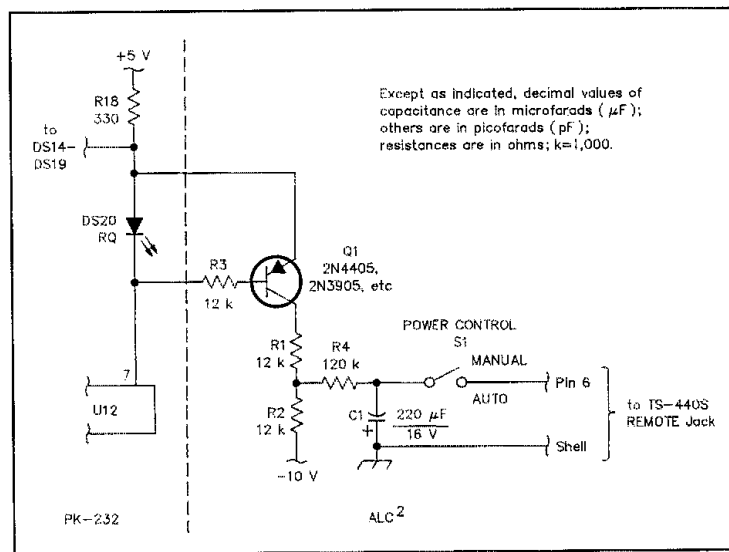

Fig 1—Schematic of the simplest version of ALC2, showing connections to PK-232. All resistors are  $\frac{1}{4}$  W, 5% tolerance.
*The ARRL Antenna Book*, on page 8-32, describes the basic function of the collinear array. In sum, it concentrates energy perpendicular to the wire, hence the term *broadside array*. This antenna's physical layout and pattern are shown in Fig 1. Such an antenna's gain can be increased by varying the end-to-end spacing of the elements.3
Fig 1—A two-element collinear array (A), also known as *two half-waves in phase*, is merely two half-wave wire elements placed end to end. This antenna has about 1.5 dB gain over a dipole in the same surroundings, and B shows its free-space pattern.
The simplest circuit I came up with, as a feasibility study, is shown in Fig 1. It uses only seven components. PNP transistor Q1 detects the voltage drop across DS20 when the LED is turned on. R3 limits the base current so that Q1 doesn't steal all the current (which would keep the LED from lighting). This is necessary because the junction voltage of a GaAs or InP LED is larger than that of a silicon transistor.
As I mentioned, the circuit of Fig 1 isn't fully automatic. I built it only as a feasibility demonstration. A more practical circuit could use additional inputs from other LEDs and some logic to make a better decision about when to reduce power. A future data controller could be designed to provide a single output directly from the CPU for this purpose—possibly using a smarter algorithm, such as counting the number of retries, and so on.
My attempt at a fully automatic circuit is shown in Fig 2. The complexity has about doubled (to 15 components!). The basic control circuit is quite similar to that of Fig 1. I changed R1/R2 to a potentiometer (R1) to permit experimenting with the ALC threshold. I set the pot to midrange before installing it and have not changed it since. Returning the emitter of Q1 to +5 V gives a slightly larger range for the ALC output.
Fig 2—Schematic of a fully automatic version of ALC2, showing connections to the PK-232 and logic-signal names. R1 replaces the R1/R2 combination of Fig 1.
Fig 1—Your receiver (the box at A) doesn't just let *all* radio energy—signals and noise—enter. Its *selectivity*—the hole in the box wall—lets only some of the incoming radio energy enter. Ideally, your receiver's selectivity should only be wide enough to let in all of the transmitted signal (B). (Some noise always enters the receiver along with the signal.) Making the receiver *narrower* than the transmitted signal (C) wastes whatever signal power the receiver doesn't pick up. Making the receiver *wider* than the transmitted signal (D) lets in extra noise that makes the signal harder to understand.
Fig 1 illustrates this idea. The receiving station(s) in a contact help the transmitting station make the best use of its transmitter power by optimizing their selectivity to maximize the signal and reject noise. This can be as simple as switching from "CW wide" to "CW narrow," but it can make a big difference.